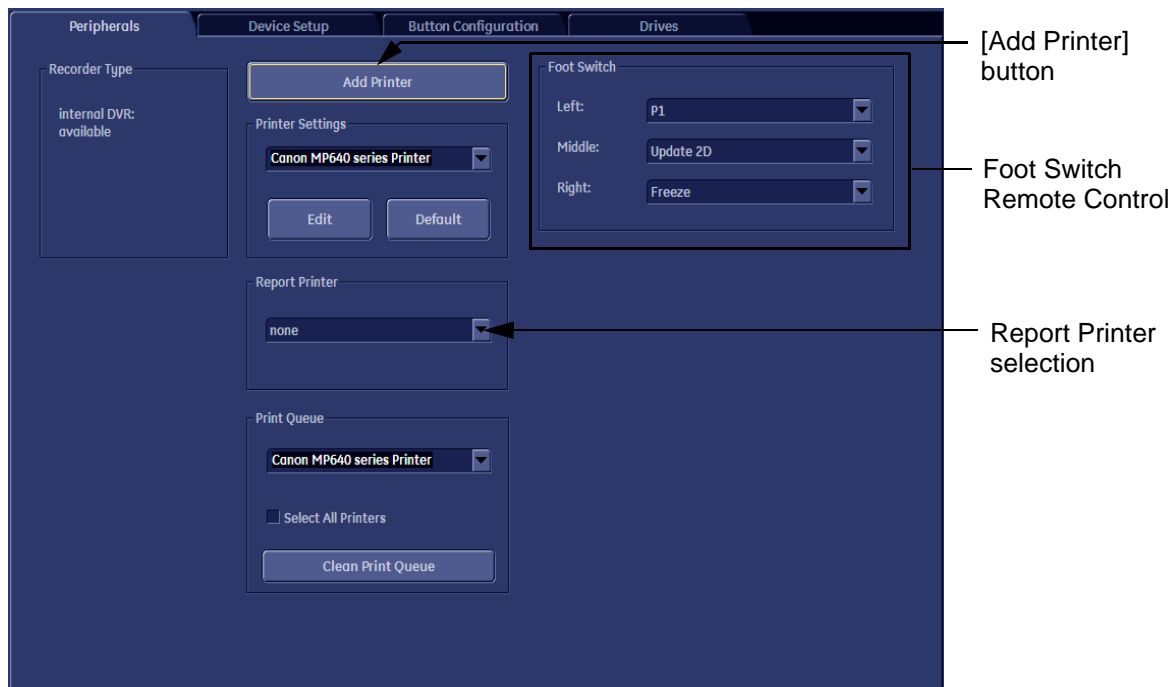

Figure 3-39 System Setup - Connectivity - PERIPHERALS page
- 4.) Click the **ADD PRINTER** button (see: Figure 3-39 above).